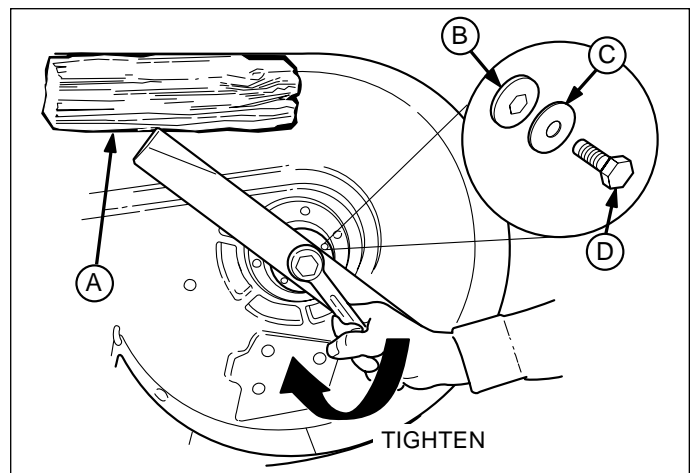

Figure 26. Installing The Blade
6. Reinstall each blade with the tabs pointing up toward deck as shown in Figure 26. Secure with a cap-screw, spring washer and hex washer (be certain the hex washer is aligned with the hex shaft). Use a wooden block to prevent blade rotation and torque capscrews to 45-55 ft.lbs. (61-75 N.m.).